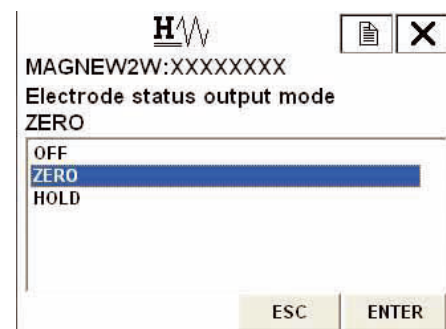

Figure 7-29
Figure 7-29 is then displayed.
2. Once the display as shown Figure 7-29 appears, move the arrow key up or down to select an Electrode status output mode. After marking a selection, press F4 (ENTER). OFF, ZERO, or HOLD can be selected. If F3 (ESC) is pressed here, the selection is canceled and the display returns to the Noise immunity menu.